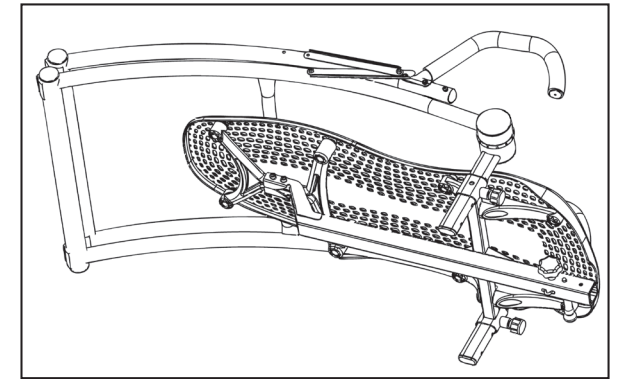
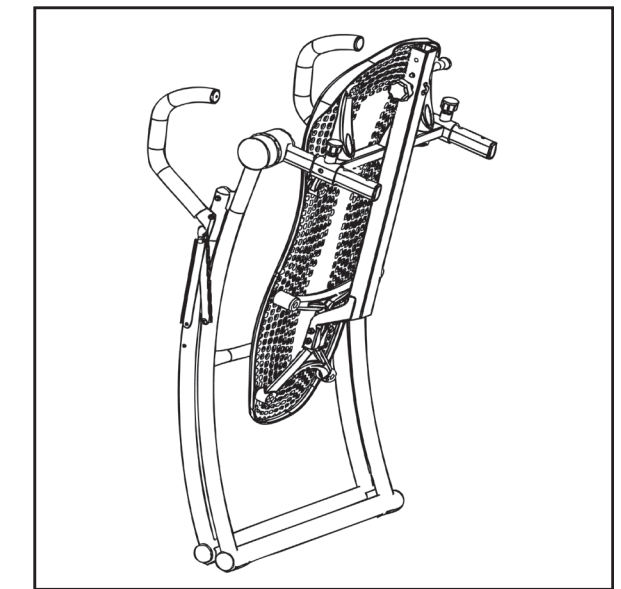

Figure 9
Figure 10
- To stand the inversion table upright, first move the A-frame onto its side (Figure 9), and then carefully lift it up onto its feet (Figure 10).